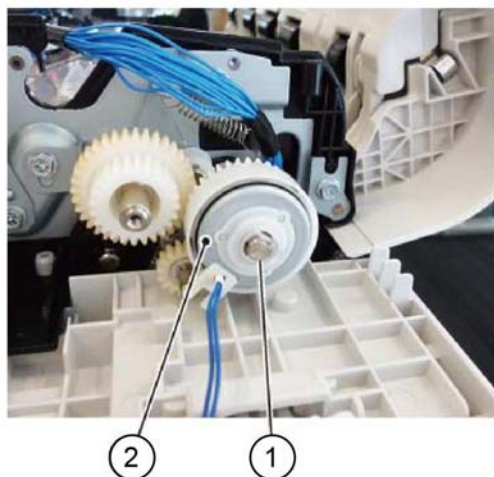

Figure 3 T/A clutch removal
10. Remove the DADF T/A clutch, **Figure 3**:
- Remove the E-clip (1).
- Remove the DADF T/A clutch (2).